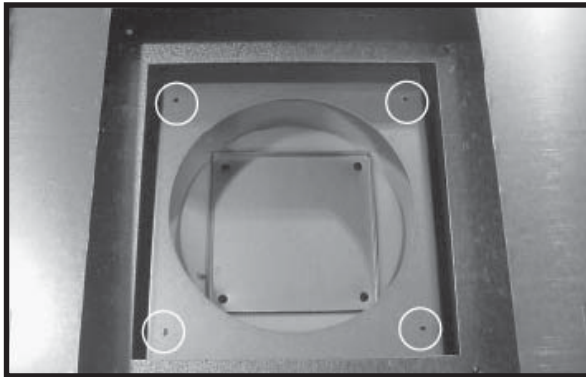

Figure 16 - Place Inner Cover Plate on Top of Appliance
- l. Place the inner cover plate on the appliance top and replace the four screws that hold the inner cover plate in place. See Figure 16.